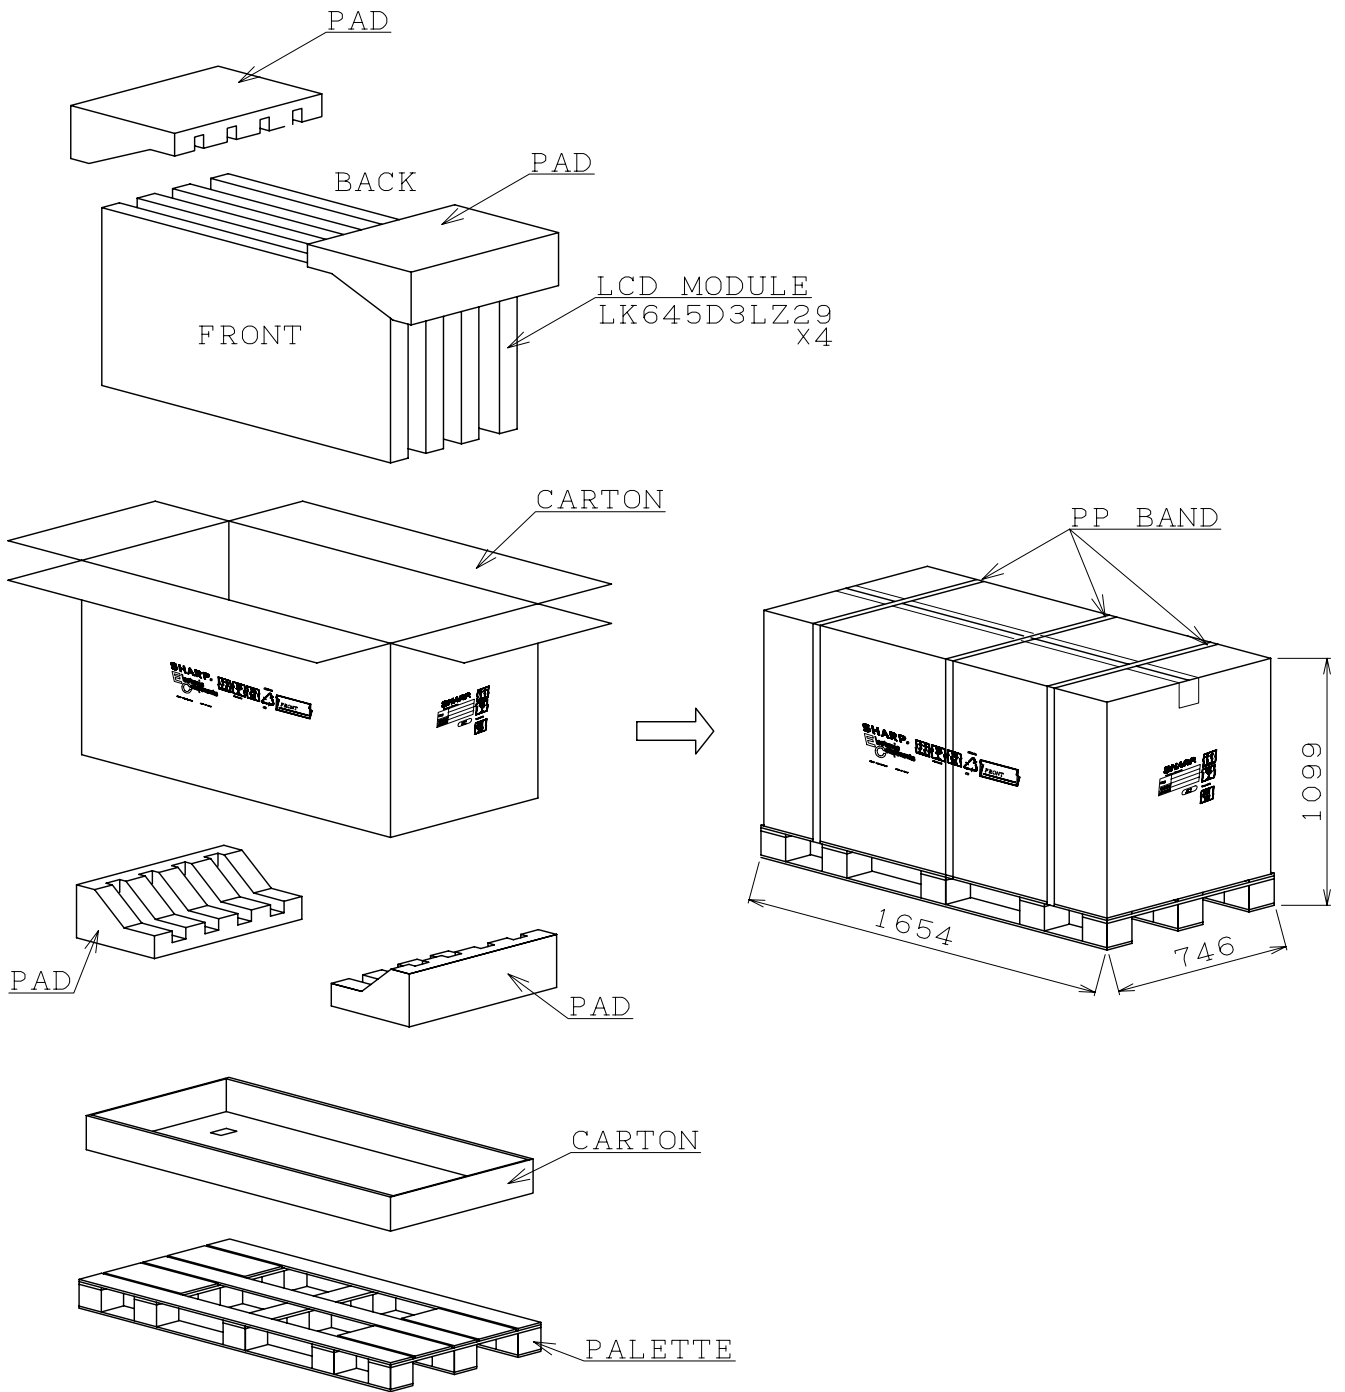

Fig 5. PACKING FORM
- c) Carton size: 1654 (W) × 746 (D) × 1099(H)
- e) Packing Form are shown in Fig. 5